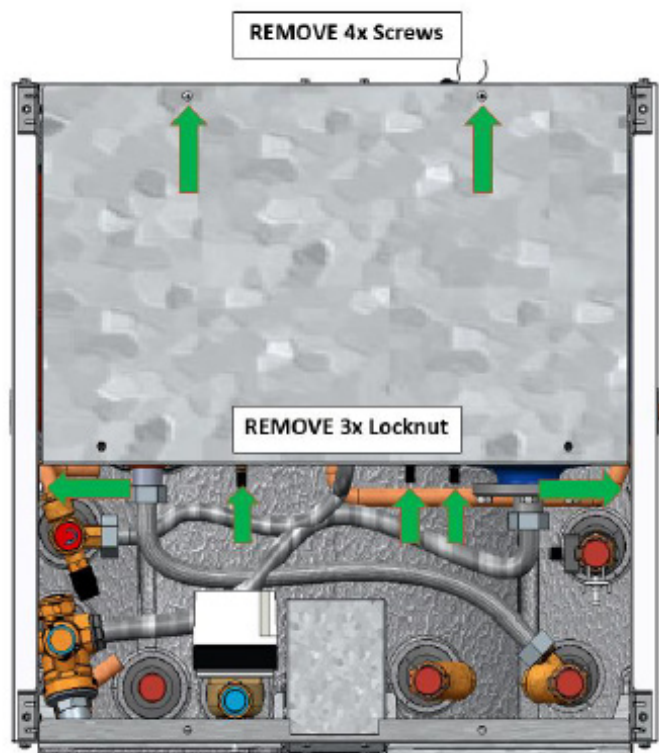

Fig. 82 : Removing Locknuts
7. Disassemble the bracket holding down the expansion vessels by unscrewing the four screws shown in Fig. 82. Remove the three locknuts attaching the schrader extension hose and the bracket.